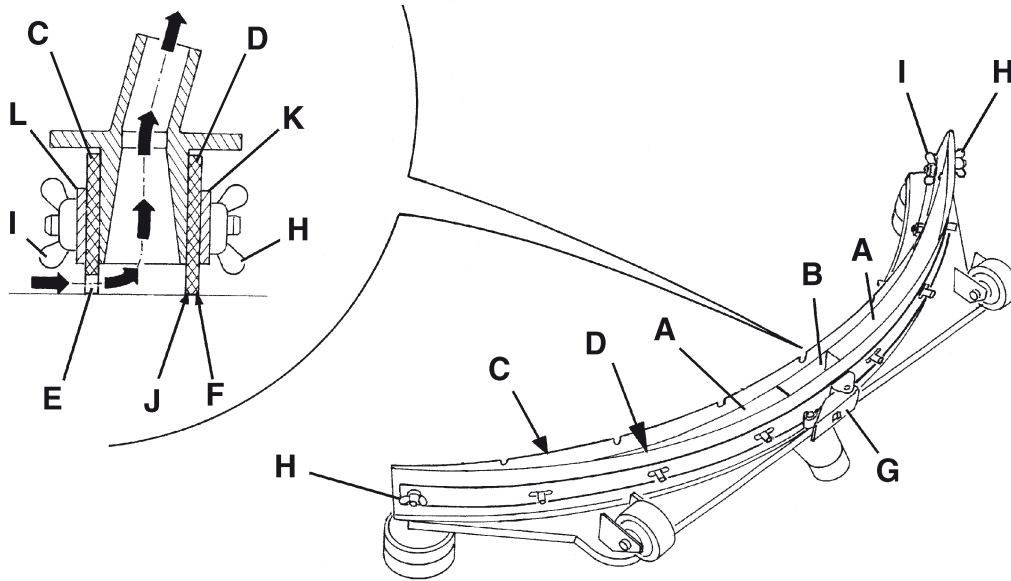
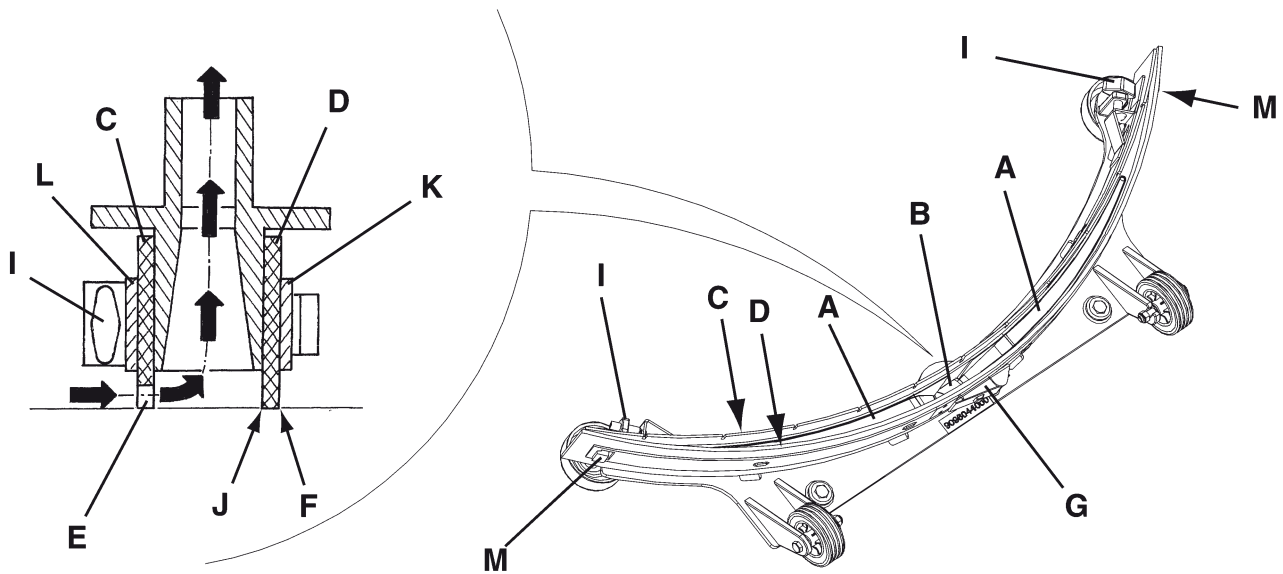

Fig. 1
Fig. 2
2. (**SCRUBTEC 545B, 545BL, 553B, 553BL, BOOST 5, 653B, 653BL, 651BCL, 661BL**). Turn the ignition key (80) to "0". (**SCRUBTEC 545E, 553E, 653E**). Disconnect the power supply cable (59) from the electrical mains.
3. Lower the squeegee (25) with the lever (10).
4. Loosen the handwheels (26) and remove the squeegee (25).
5. Disconnect the vacuum hose (15) from the squeegee.
6. Clean the steel squeegee (Fig. 1) or the aluminium squeegee (Fig. 2). Clean the compartments (A, Fig. 1 or 2) and the hole (B) especially. Check the front blade (C) and the rear blade (D) for integrity, cuts and tears; if necessary replace them (see the procedure in the following paragraph).
1. Clean the steel squeegee (Fig. 1) or the aluminium squeegee (Fig. 2), as shown in the previous paragraph.
2. Check that the edges (E, Fig. 1 or 2) of the front blade (C) and the edges (F) of the rear blade (D) lay down on the same level, along their length; otherwise adjust their height according to the following procedure:
- Release the tie rod (G, Fig. 1 or 2) and loosen the wing nuts (H, Fig. 1), or disengage the fasteners (M, Fig. 2) and adjust the rear blade (D, Fig. 1 or 2), then tighten the wing nuts, or engage the fasteners, and then engage the tie rod.
- Loosen the handwheels (I) and adjust the front blade (C, Fig. 1 or 2); then tighten the handwheels.
3. Check the front blade (C, Fig. 1 or 2) and rear blade (D) for integrity, cuts and tears; if necessary replace them according to the following procedure. Check that the front corner (J) of the rear blade is not worn; otherwise, overturn the blade to replace the worn corner with an integral one. If the other corners are worn too, replace the blade according to the following procedure:
- Release the tie rod (G), remove the wing nuts (H) or disengage the fasteners (M), remove the retaining strip (K), then replace/overturn the rear blade (D). Then install the blade in the reverse order of removal.
- Unscrew the handwheels (I) and remove the retaining strip (L), then replace the front blade (C). Install the blade in the reverse order of removal.